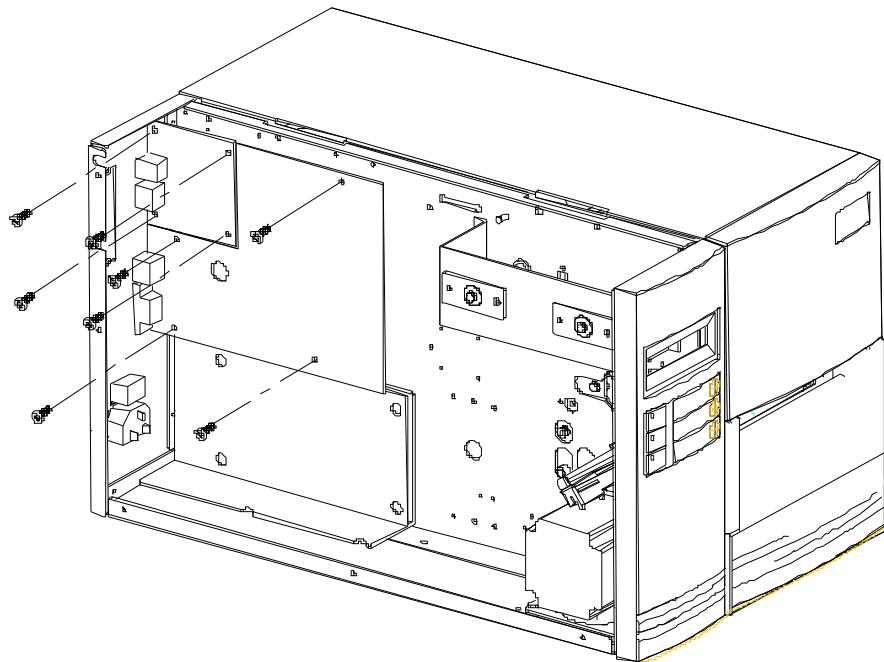

Figure 10.2.2
4. Remove the 8 screws on the main board (Fig. 10.2.2).